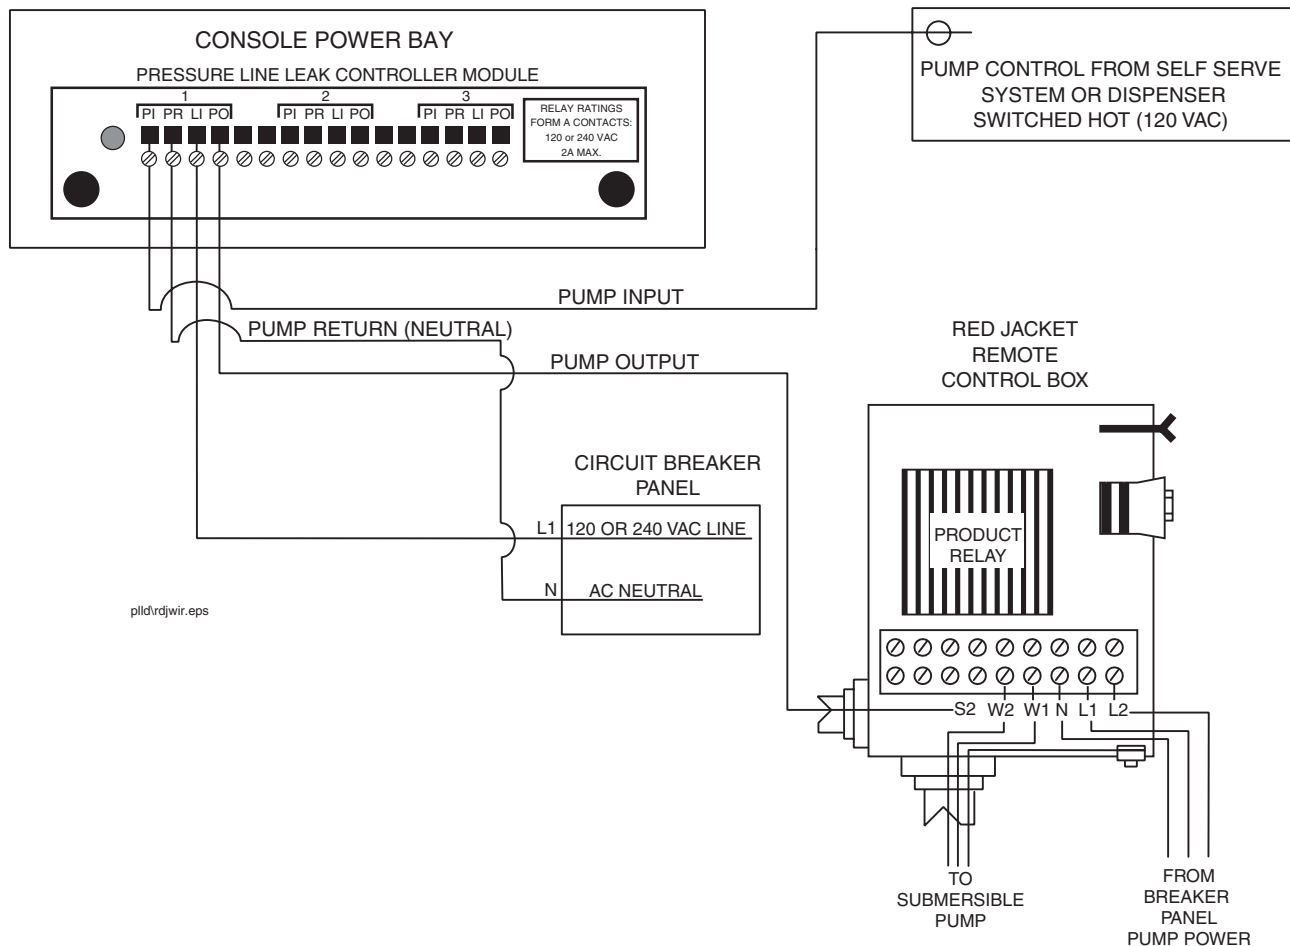
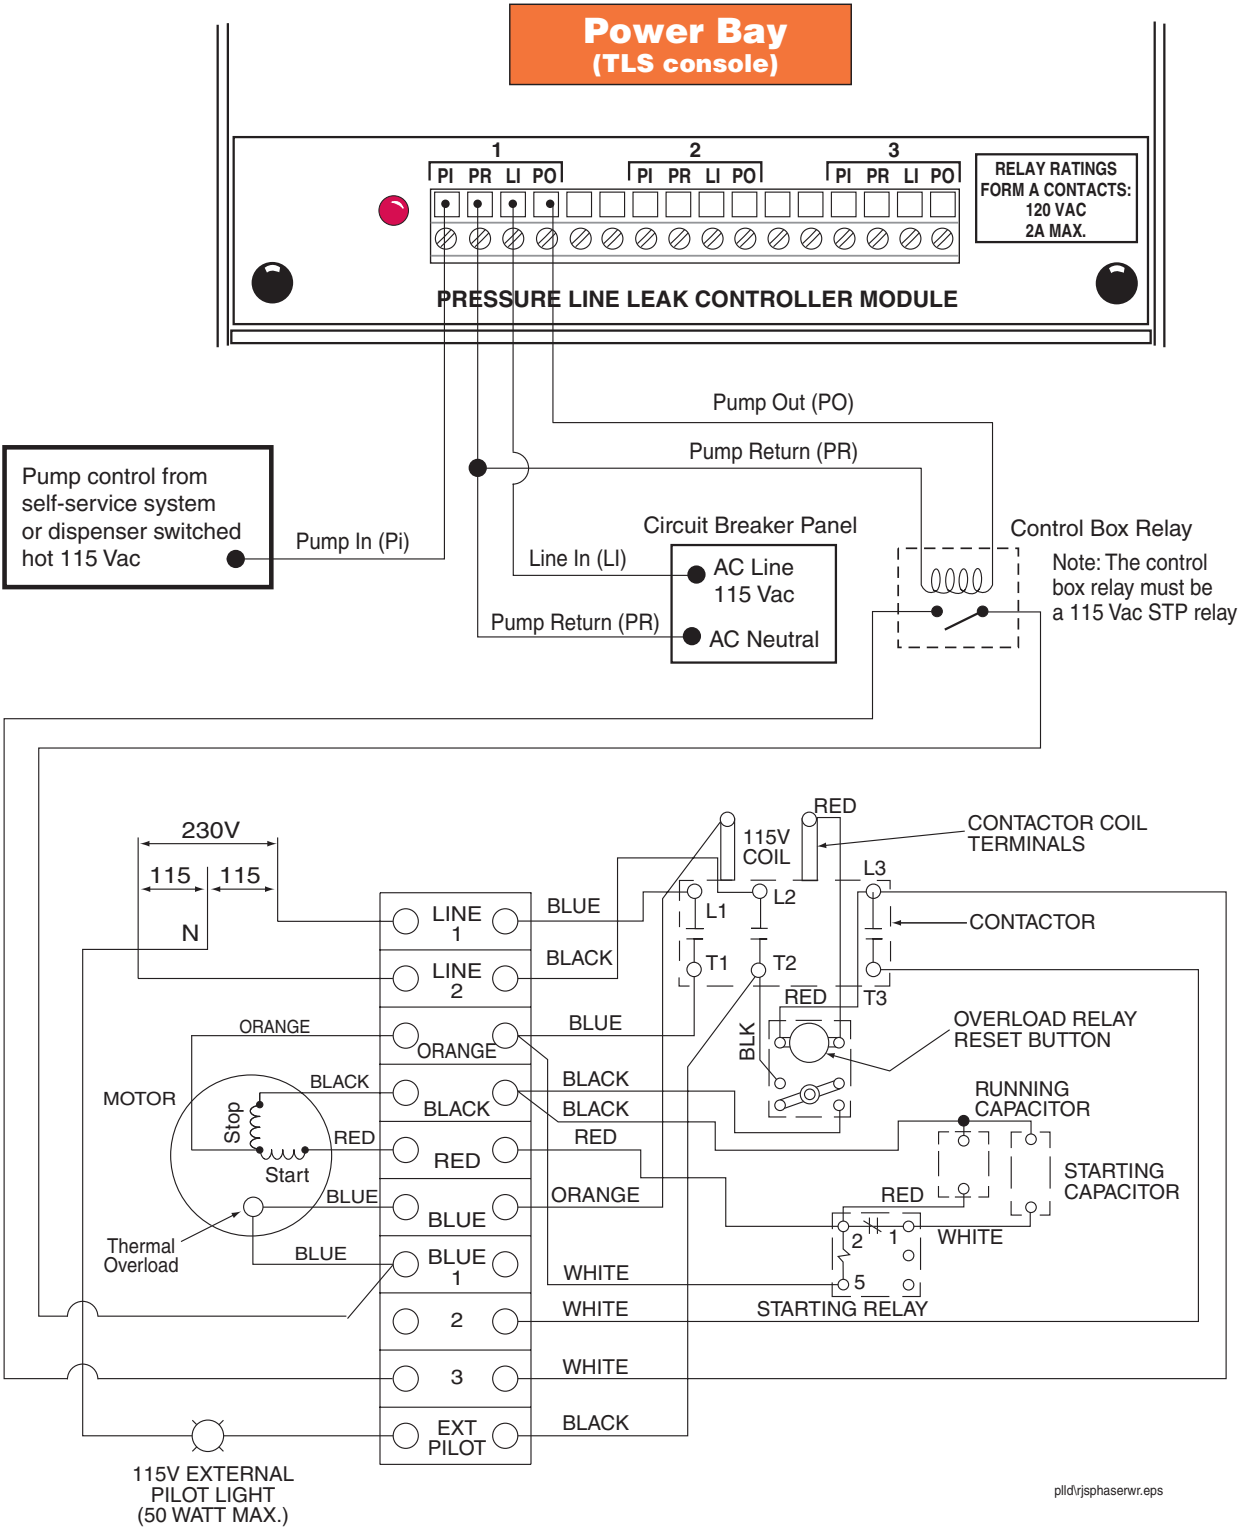

Figure 18. PLLD system and pump control diagram for Red Jacket relay control box
Figure 19. Red Jacket Maxxum Big-Flo single-phase wiring
- Red Jacket (ref. Figure 18, Figure 19, and Figure 20)
5. Connect the PR (PUMP RETURN/AC NEUTRAL) wire from the module to the AC neutral line (ref. Figure 18, Figure 22). For other systems, PR is connected to the neutral side of the pump contactor relay and to the AC neutral line (ref. Figure 21).